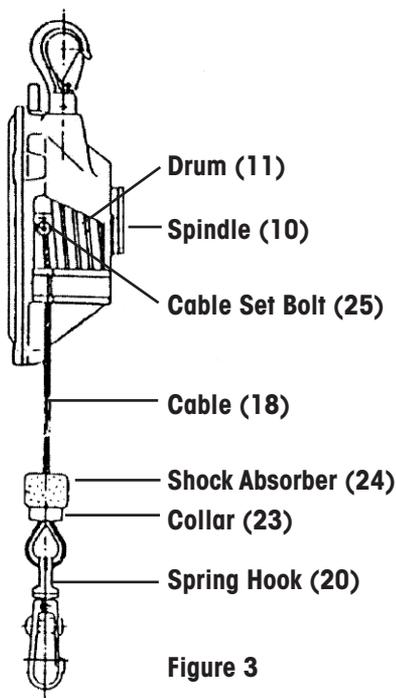

Figure 3
2. Loosen the spiral spring (12) by turning the spindle (10) to the left until the cable is sent out and the cable set bolt (25) appears at the position shown in Figure 3.
3. Remove the cable set bolt, and then remove the cable from the drum (11)
4. Remove the collar (23) and the shock absorber (24) from the cable and set them to a new cable.